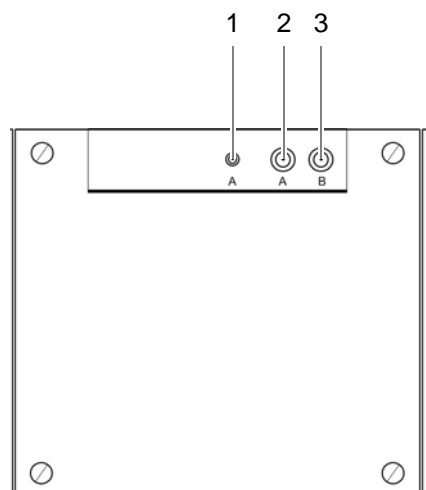

Figure 5.22 Antenna connectors – equipment cabinet top view
Figure 5.22 shows the antenna connections on the upper side of the equipment rack. The following table describes it in detail.
- Connect the required antennas on the upper side of the equipment rack, refer to Figure 5.22 on page 119.